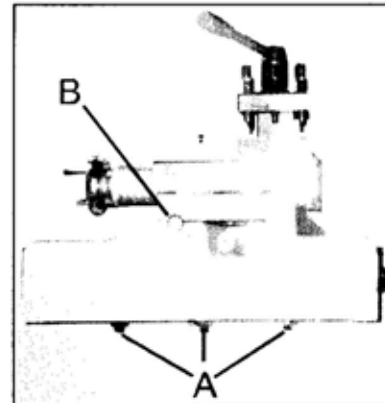

Fig. 22
1. Loosen three hex nuts (A, Fig. 22) found in the bottom rear of the cross slide and back off one full turn each.